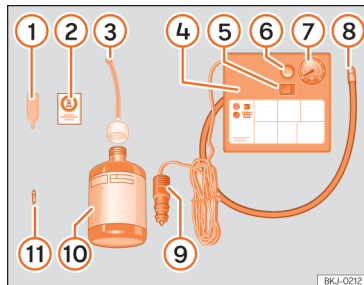

Fig. 31 Standard representation: anti-puncture kit contents.
»» **Fig. 31:**
- Unscrew the tyre valve cap and insert. Use the »» Fig. 31 ① tool to remove the insert. Place it on a clean surface.
- Shake the tyre sealant bottle vigorously »» Fig. 31 ⑩.
- Screw the inflator tube »» Fig. 31 ③ into the sealant bottle. The bottle's seal will break automatically.
- Remove the lid from the filling tube »» Fig. 31 ③ and screw the open end of the tube into the tyre valve.
- Place the insert back into the tyre valve using the tool »» Fig. 31 ①.
- Screw the compressor tyre inflator tube »» Fig. 31 ⑧ into the tyre valve.
- Check that the air bleed screw is closed »» Fig. 31 ⑥.
- Insert the connector »» Fig. 31 ⑨ into the vehicle's 12-volt socket »» page 138.
- Turn the air compressor on with the ON/OFF switch »» Fig. 31 ⑤.
- Attach the sticker »» Fig. 31 ② to the instrument cluster, within the driver's visual field.
Screw the inflator tube >>> **Fig. 31** ⑤ again and check the pressure on the gauge ⑥.